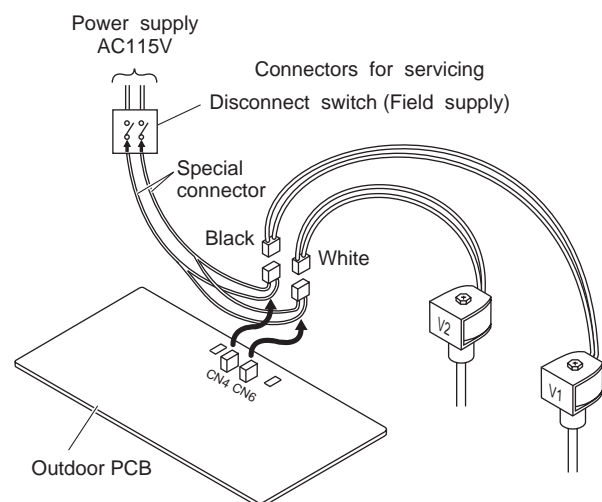

Fig. 1
- 13-4-2.** Connect the vacuum pump and a manifold valve as shown Fig. 1. Confirm that all connections are correctly made.
- 13-4-4.** Check that the BLK/WHT connector is properly attached. (Fig. 1)